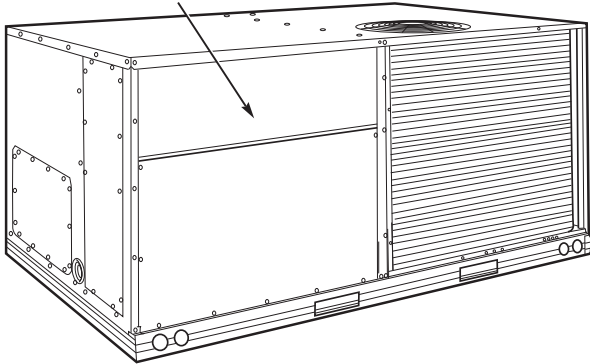
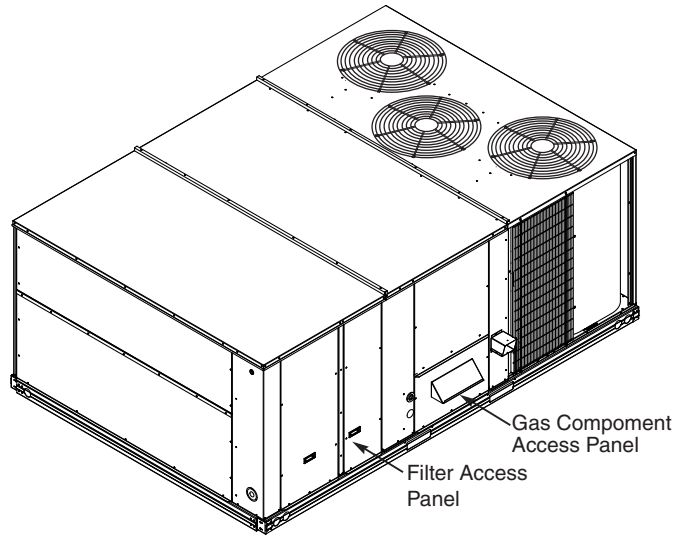

Fig. 21 — Air Filter Access Panel — 3 to 12-1/2 Ton Units
Fig. 23 — Air Filter Access Panel — 15 to 27-1/2 Ton Units
1. Lift up and remove air filter access panel (3 to 15 ton units, see Fig. 21 or 22) or remove the screws securing the filter access panel (15 to 27-1/2 ton units, see Fig. 23).